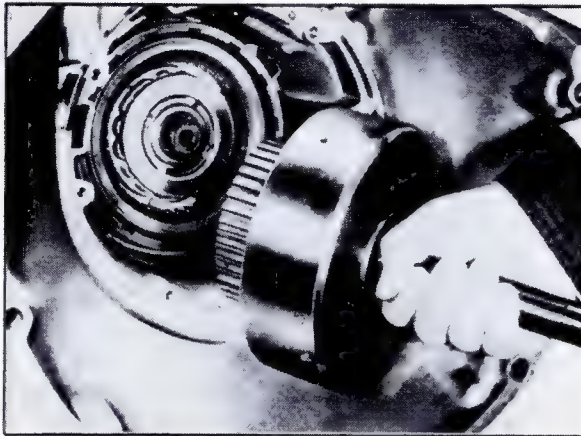

Fig. 7-113 Installing Forward Clutch Assembly
5. Position transmission horizontally in Holding Fixture and install forward clutch assembly and turbine shaft, Fig. 7-113. Make certain end of main shaft goes all the way into forward clutch hub. It will be necessary to rotate clutch housing to allow direct clutch driving hub to index with direct clutch composition plates. When forward clutch is seated, it will be approximately 1-1/4 inches from pump mounting face in case.